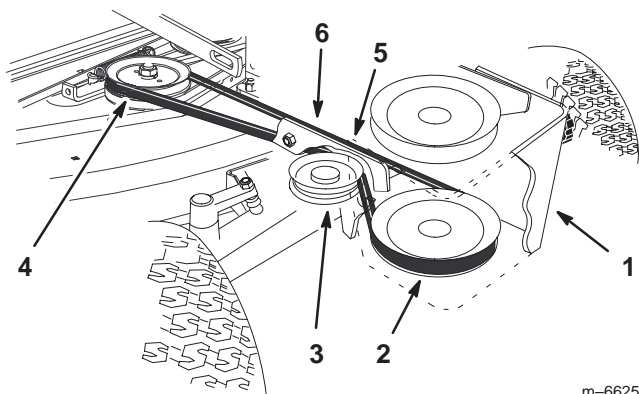

Figure 10
2. Install the mower drive belt onto the mower center pulley (Fig. 10). Ensure that it is on the upper center pulley.
3. Install the mower drive belt onto the lower pulley and the lower idler pulley in the pulley box (Fig. 10).